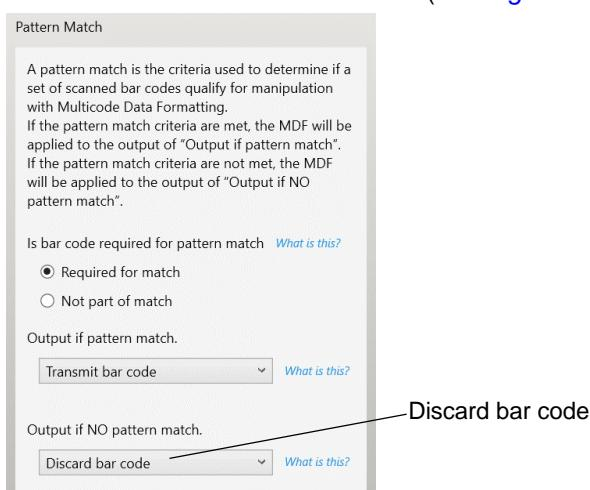

Figure 16-3 Figure Match Setting for Output
- When defining criteria, avoid enabling an output when the pattern is not matched. Set **Output if NO pattern match set as Discard bar code** (see Figure 16-3).